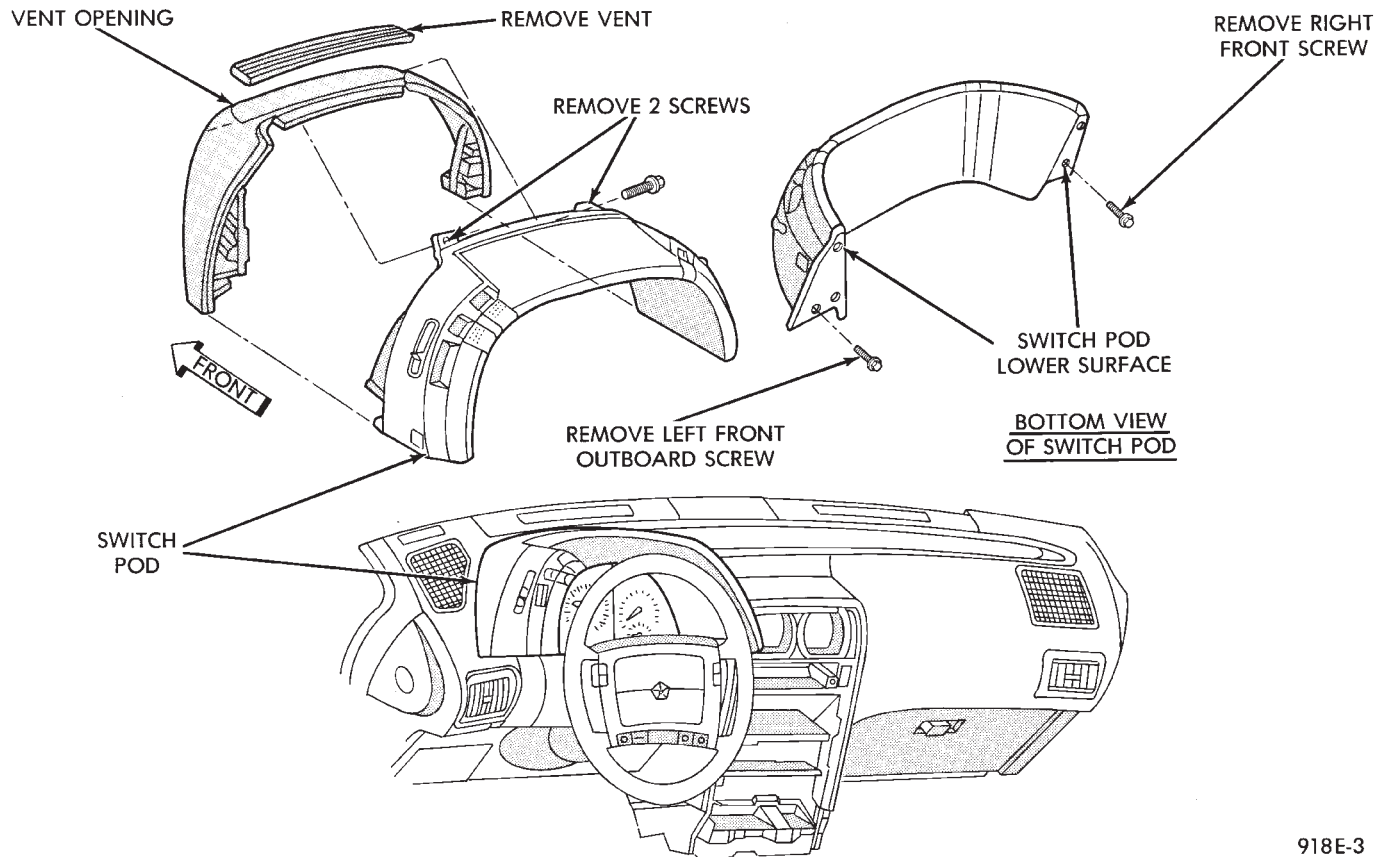
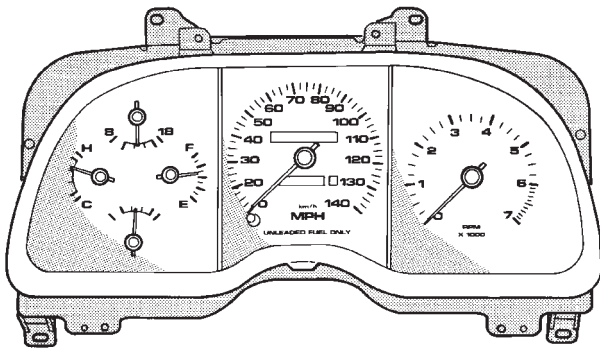

Fig. 3 Switch POD Assembly
Fig. 4 Cluster Mask and Lens
- (1) Disconnect negative battery cable.
- (2) Pry up edge of panel vent grille, using a straight flat edge tool to disengage clips, then remove grille (Fig. 3).
- (3) Remove two screws located under panel vent grille.
- (4) Remove two screws underneath switch POD assembly.
- (5) With tilt steering adjust steering wheel to the lowest setting.
- (6) Pull switch module rearward to remove module and disconnect all wire connections.
- (7) For Installation reverse above procedures. Tighten all screws to 2 N·m (20 in. lbs.) torque.
- (1) Remove switch pod assembly (Fig. 3).
- (2) Remove tilt column lever if equipped.
- (3) Remove six screws holding the cluster mask and lens assembly.
- (4) Pull cluster mask and lens rearward to remove (Fig. 4 and 5).
- (5) For installation reverse above procedures.